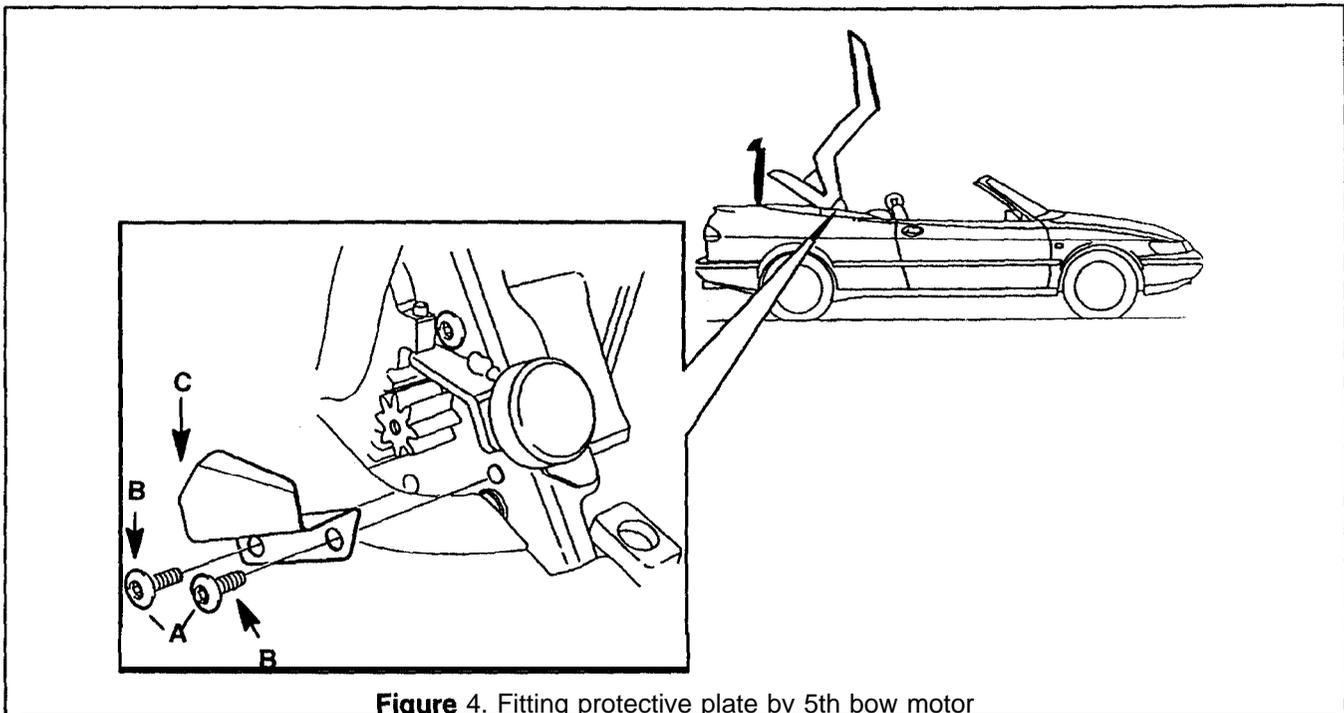

Figure 4. Fitting protective plate by 5th bow motor
2. Remove the two lower screws securing the 5th bow motor. See Figure 4.A.
4. Fit the protective plate in position and tighten the screws. See Figure 4.C.